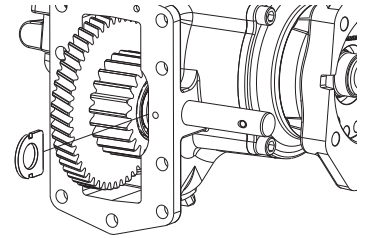

Figure 10 – Shim Installation
17. Insert the shim (28) between the bearing and the housing with the curved end towards the mounting pad (on the set screw side of the mounting pad). Tap the input shaft into the housing and through the bearing races. *See Figure 10*